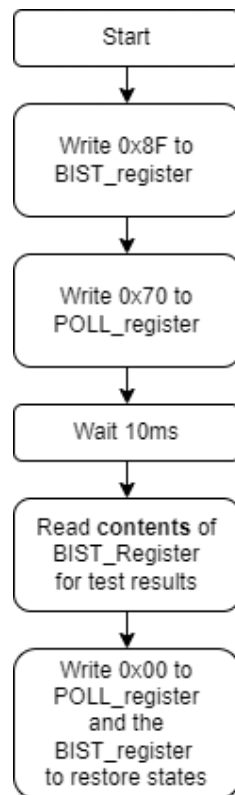

Figure 5-1: - Full BIST sequence using a timer to wait for BIST completion
- An example of the register read and write sequence for a complete BIST operation is given in the flowchart, figure 5-1, below. Note that in this example a 10ms delay is used as an alternative to polling the DRDY pin or DRDY bit in the STATUS register.
Figure 5-1 gives the SPI activity sequence for initiating a single measurement and reading the results. The MagI2C works for either CPOL=CPHA=0 or CPOL=CPHA=1, so both cases are given. The assumption in the diagram is that the DRDY pin or the MISO line is used to establish when data is ready, but a query of the Status Register could be used instead. SPI timing requirements are discussed in Section 4.4.